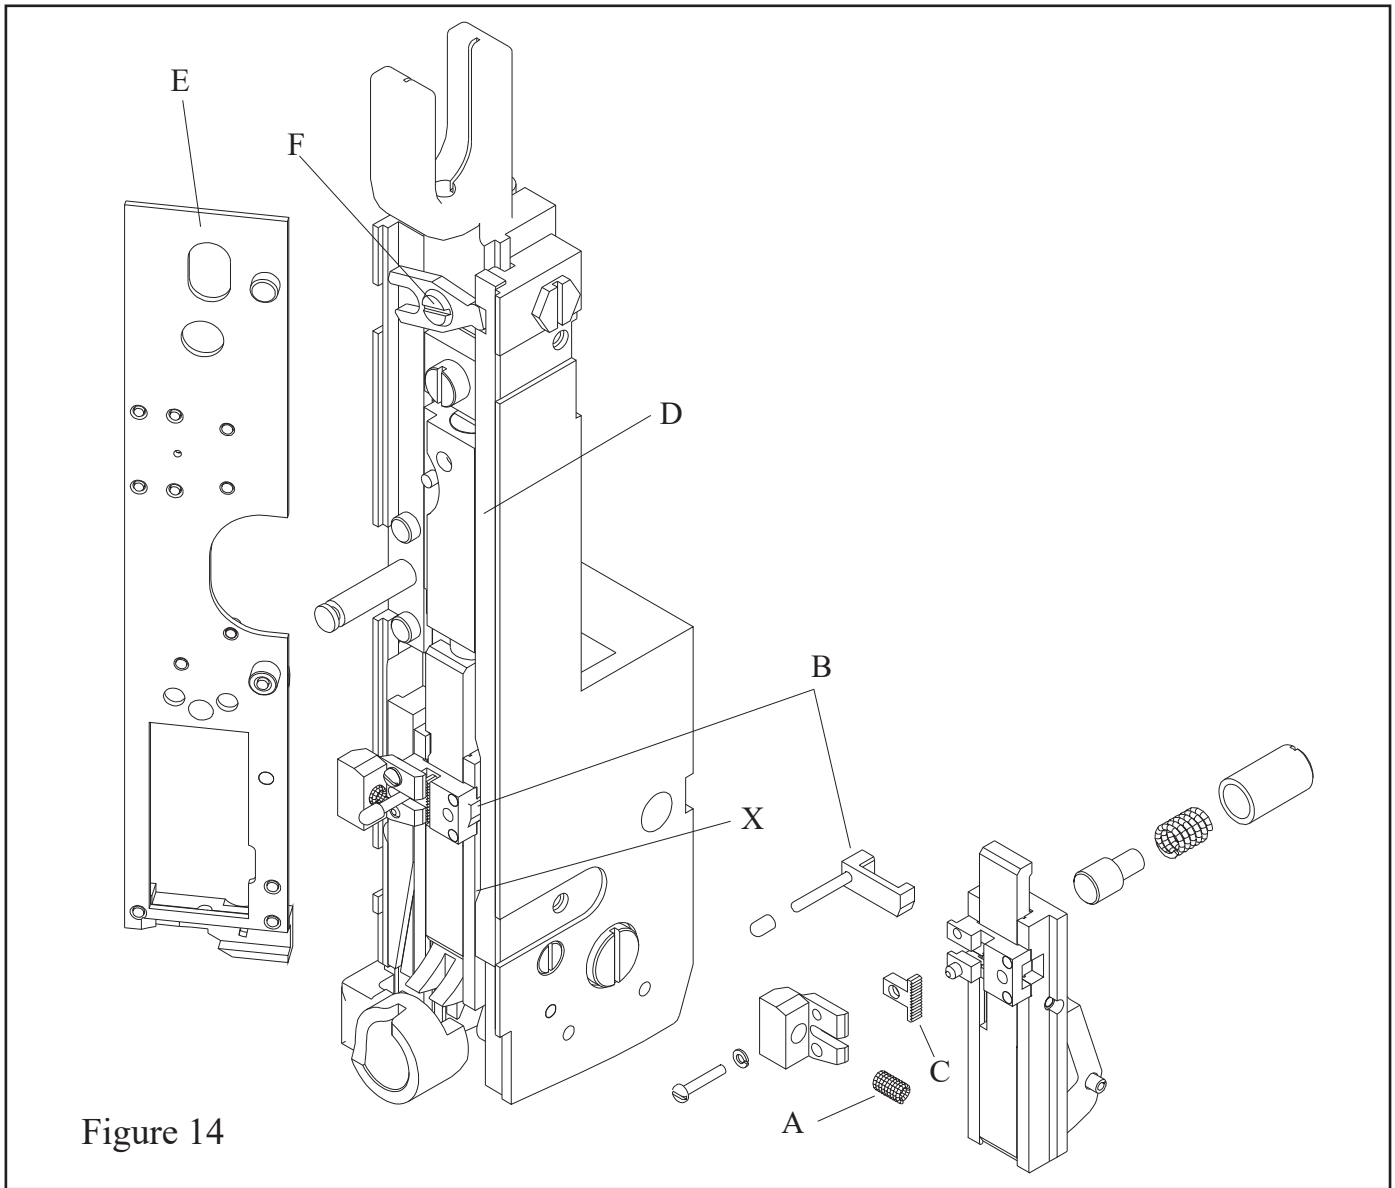

Figure 14
H. Grip, Grip Release Slide and Face Plate: (Fig. 14)